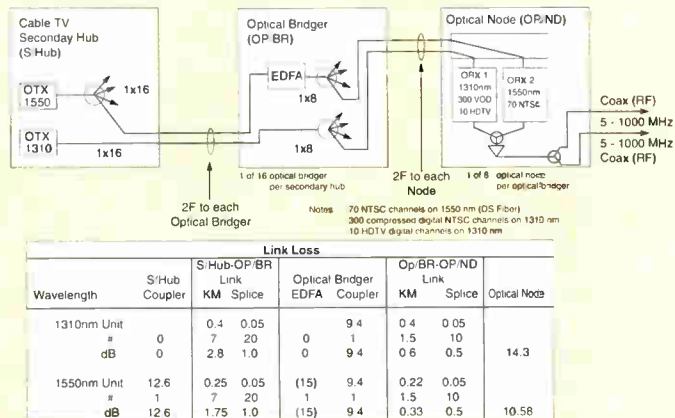

Figure 6
The 1550 nm laser is a very narrow linewidth, potentially externally modulated laser that will launch all 70 standard AM-VSB NTSC signals onto the dispersion shifted (DS) fiber that transports the signals to the optical node. There they are detected and combined with the VOD and HDTV signals as shown in Figure 6.5,6,7,8,9 The combined RF signal is then transmitted through a passive coaxial network similar in topology to Figure 3.